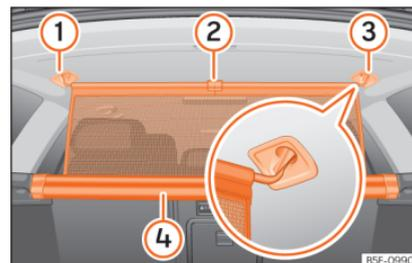

Fig. 179 In the boot: securing the partition net.
- Pull up handle »» Fig. 179 (1) to remove the net from the casing (4).
- Hook in the net partition on the right side ③ (magnified image).
- Hook in the net partition in the left side housing ① pulling the rod.